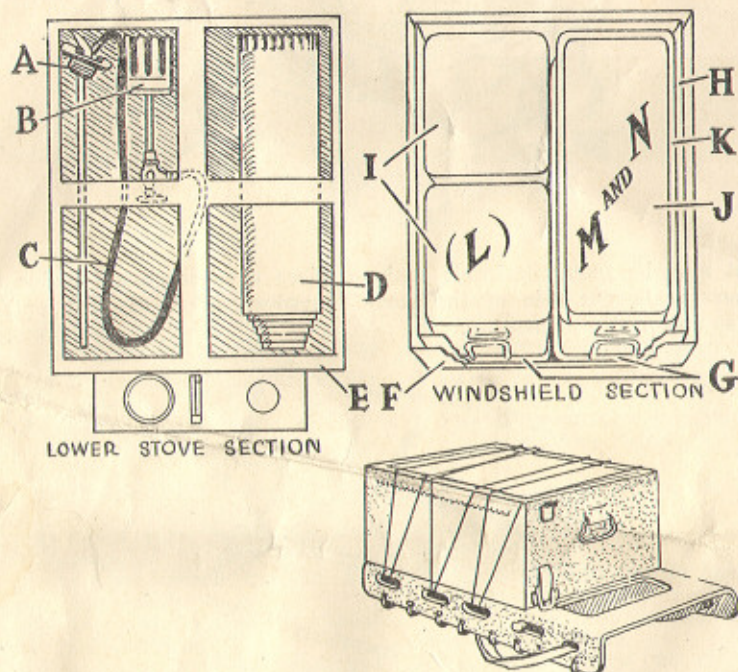

Figure 11
3. BACK-PACKING.—The outfit, cooking, small detachment, has been carefully designed so that, when disassembled, it can be carried in *two* packboard loads. Figure 11 shows how the various components can be best arranged, and, for convenient reference, the following list is given of the articles to be packed in each section: